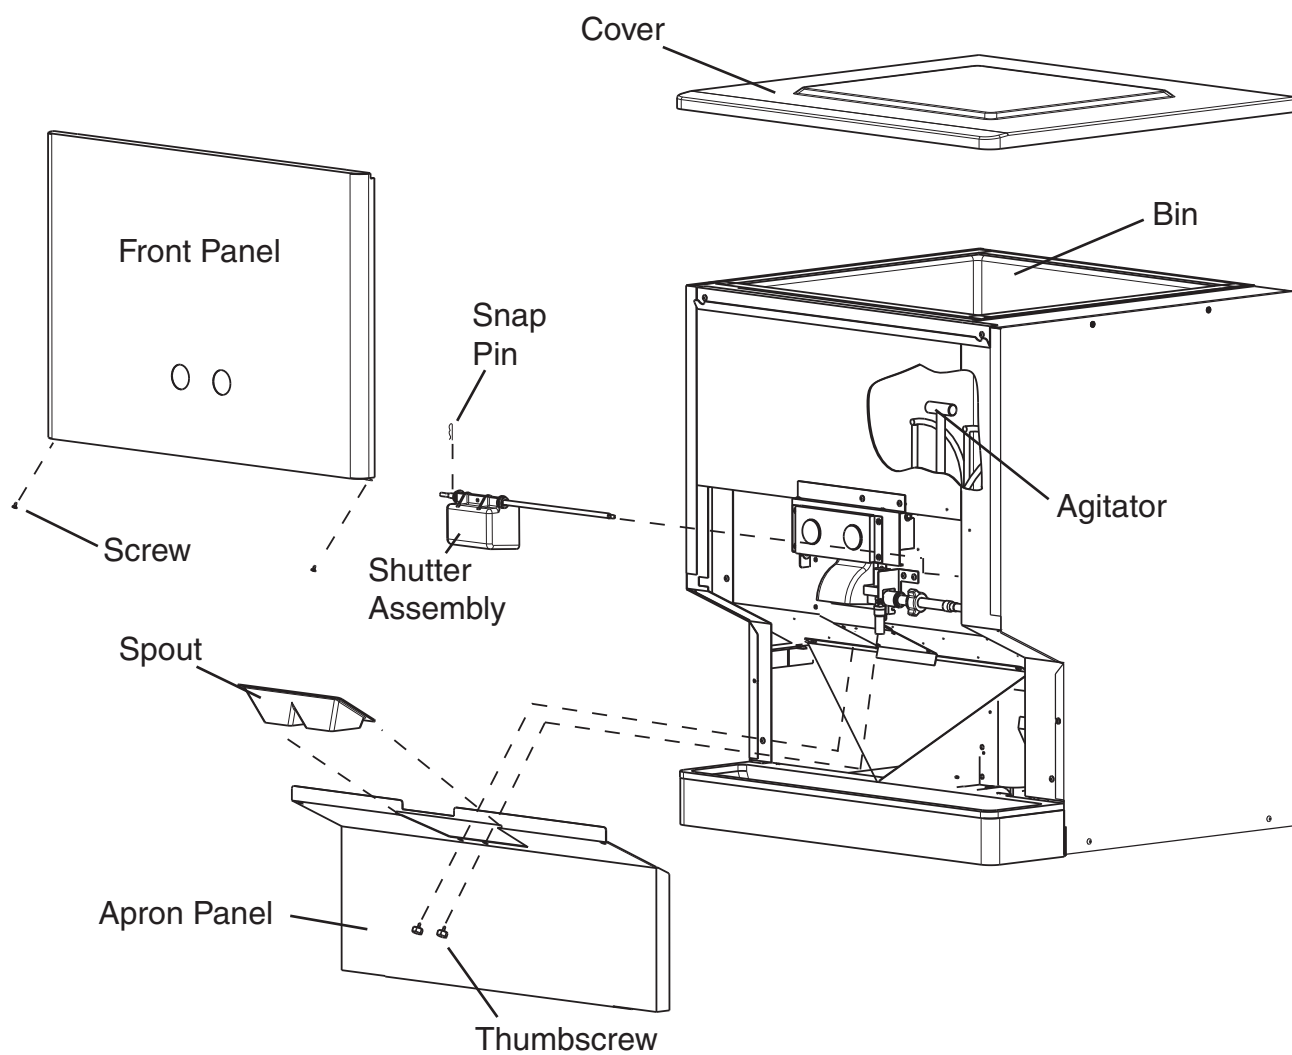

Fig. 2
- 4) Remove the front panel. See Fig. 2.